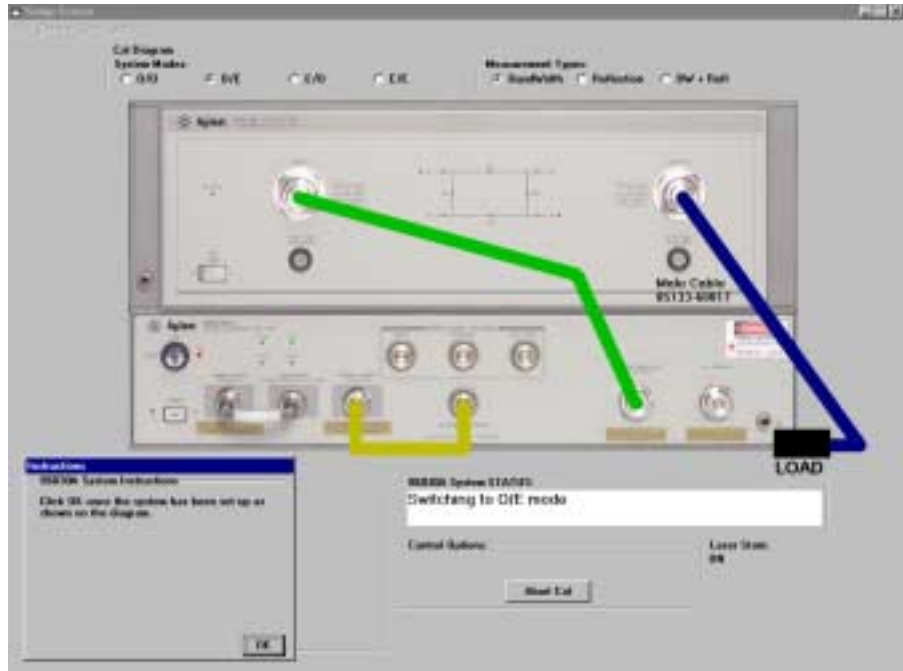

Figure 3-4.
- 18 Connect the equipment as shown in Figure 3-4 then click **OK**.